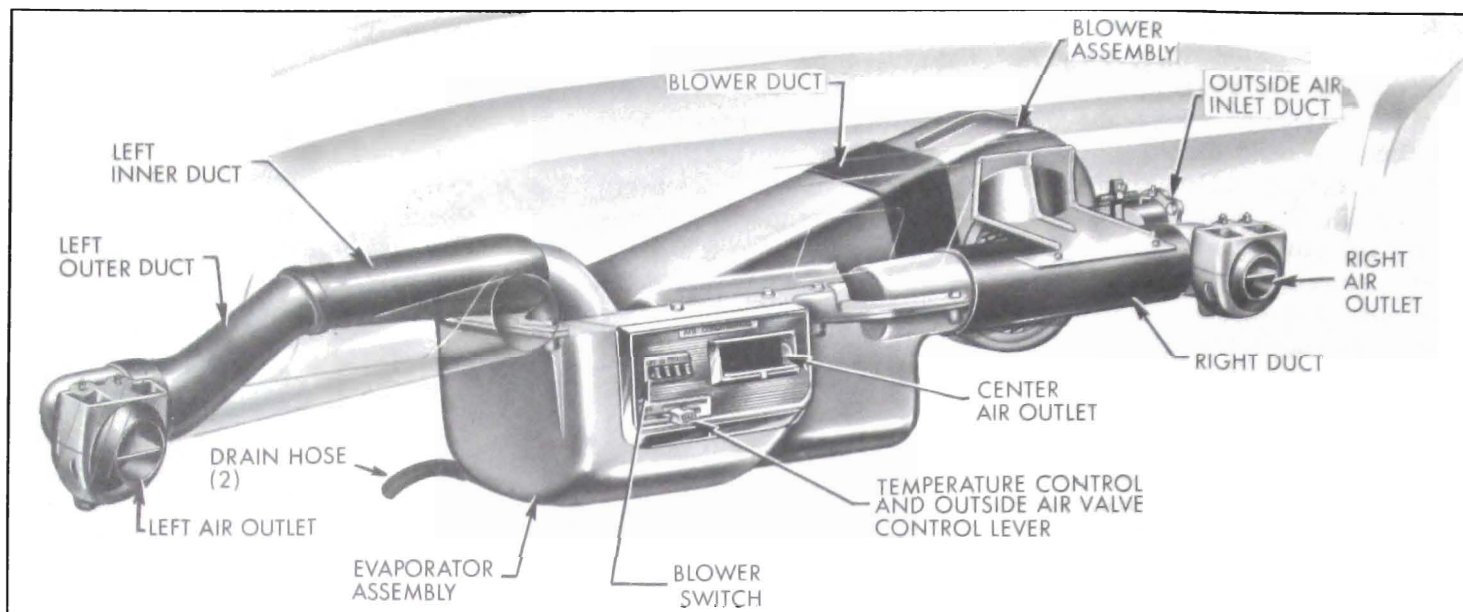

Figure 11-24—Evaporator Assembly and Air Outlets
5. Evaporator Assembly. The evaporator assembly consists of the evaporator core, thermostatic expansion valve, the blower switch and resistor, mechanism for outside air valve, temperature control lever and the center air outlet. All these parts are enclosed in a plastic housing assembly located under the center of the instrument panel. See Figure 11-24. The case has provisions for two drain hoses, for an air inlet duct from blower and for the ducts to each of the air outlets located under each end of instrument panel.